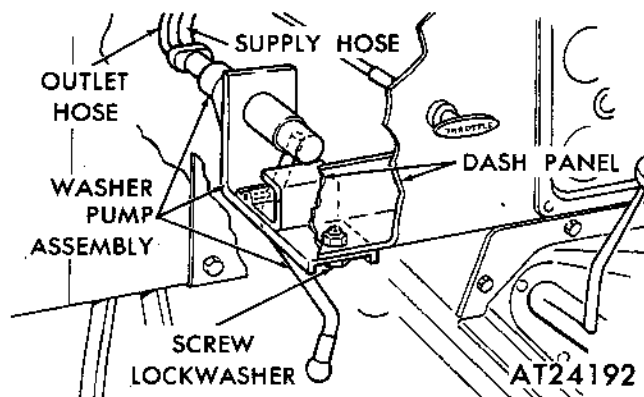

Figure 2-383. Removing or installing washer pump (M151A2, M825, and M718A1 vehicles).
three positions, OFF, LO, and HI. Turning the knob to either the high or low position actuates the two-speed motor which controls the two wiper blades on the windshield. The wipers move in a wide sweeping pattern across the windshield. A manually operated handle attached to the dash underside (fig. 2-383) is used to actuate the windshield washer. The washer reservoir is mounted on the right fender under the hood area. Openings in the lower sill are provided for defrosting the windshield.
(4) Remove instrument cluster from dash panel as described in (17) and (18), paragraph 2-98 *b*. Reach through cluster dash opening and remove two clips from firewall.
(5) Pull supply hose out of clips and away from pump (fig. 2-383). Remove supply hose through instrument cluster opening.
(6) Detach washer outlet hose from washer pump (fig. 2-383). Pull outlet hose through firewall from engine compartment side.
(9) Unscrew and remove jet nozzle and its rubber washer from hood mounting place.
(10) Remove the screw and lockwasher securing washer pump and bracket assembly to underside of dash (fig. 2-383).
(11) Remove washer pump and bracket from vehicle.